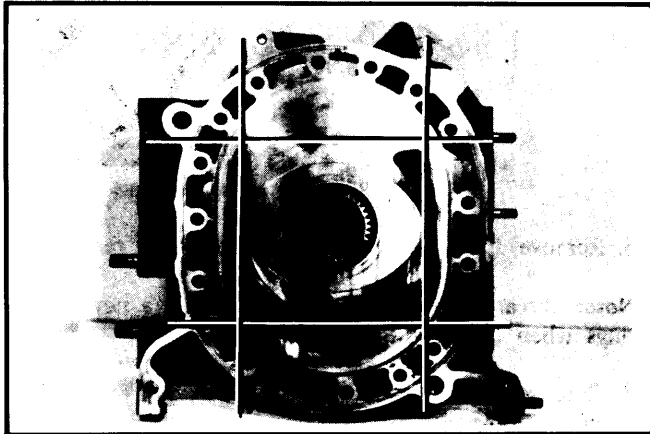

Fig. 6 Straightedge Positions for Checking Housing Distortions
3) Place a straightedge across housing surface in positions shown in illustration. Using a feeler gauge, measure distortion of front housing. Replace or reface housing if distortion limit of .0016" (.04 mm) is exceeded. (See Fig. 6).